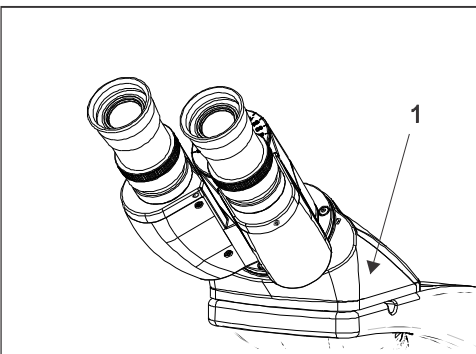

Fig.12
2. Insert 10x eyepieces into the ocular sleeve and tighten the clamping screw (1) using allen wrench 1.2mm. See figure 12.